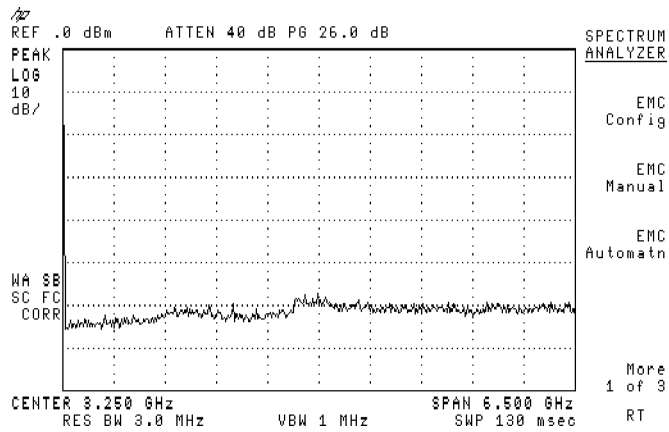

Figure 2-3. EMC Analyzer Available after Pressing **PRESET**
6. Press **PRESET**. The top level EMC auto-measurement personality softkey menu should be displayed as illustrated in Figure 2-3. The personality is now stored in memory, and the EMC analyzer mode is ready to use.